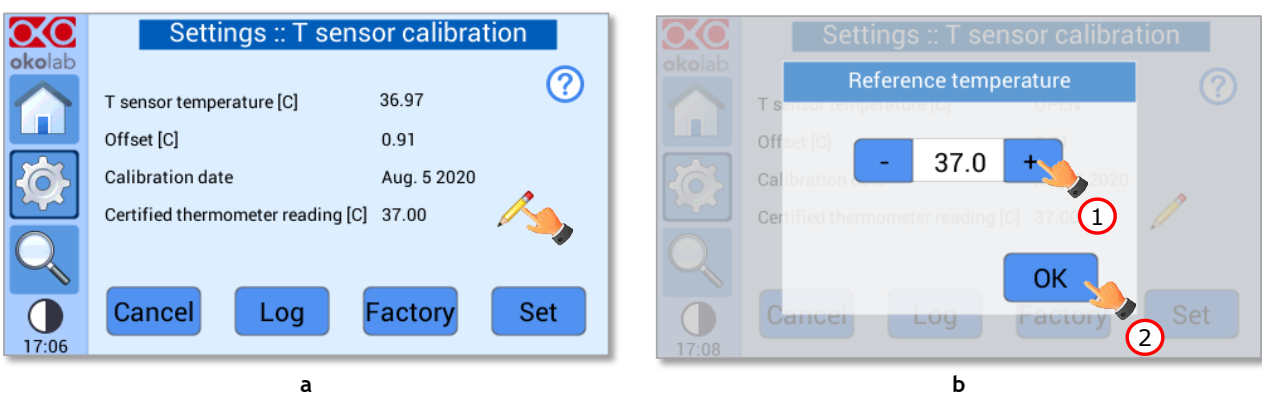

Figure 61. Settings – Calibrations – T Sensor – Set (a – b).
- Press on the pencil icon  (see Figure 61 a) and insert the reading of the certified thermometer by pressing + / - (see pointer 1 in Figure 61 b). Press *OK* to confirm (see pointer 2 in Figure 61 b).